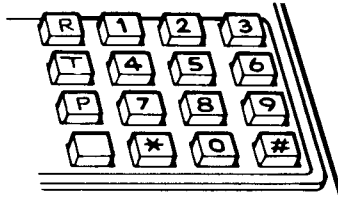

Fig. 10 Typical dial unit keypad
Telephones 8200 have the additional facility of a 10 address repertory dialling unit. Up to 10 exchange line numbers each of up to 18 digits can be stored, one under each button from 1 to 0 of the push button dial unit. On these telephones the row of buttons to the left of the push button dial are marked R.T.P. down as in Fig 10.
**The gravity switch** mechanism is reverse acting and so like a Trimphone does not present a calling signal to line when the tele cover is removed. The springsets have twin wiping contacts and are completely enclosed, no adjustments are required. The handset cord and the line cord plug into sockets recessed in the tele base. Access to the plugs and sockets is gained by removal of the narrower of the two cover plates, but refer to the notes for fig. 10 before attempting to remove the cover. You will find that considerable force is required to remove this cover, this is because of the position of the “snap-on” lugs on the cover.